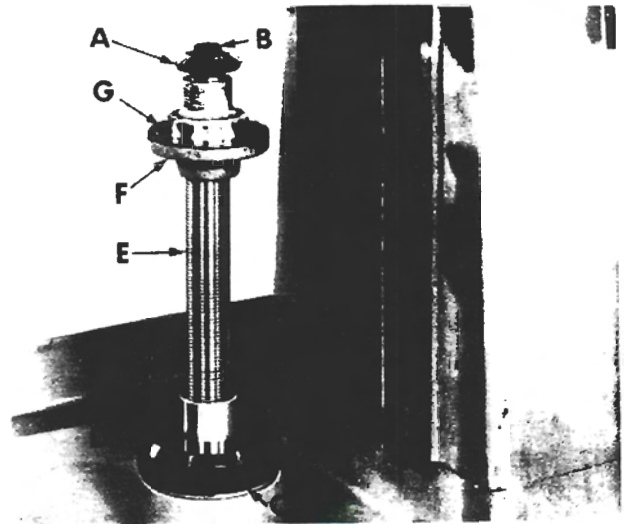

Figure 52
7. Remove screws in knee lift screw flange (F, fig. 52).
9. To remove knee lift assembly (E, fig. 52), remove screws (D) from knee lift screw plate (C) and lift out assembly.
10. To remove bevel gear (A), remove hex jam nut (B) and lift gear off shaft. To replace bearing, remove key, knee lift screw and shims (G) and flange will lift off shaft.